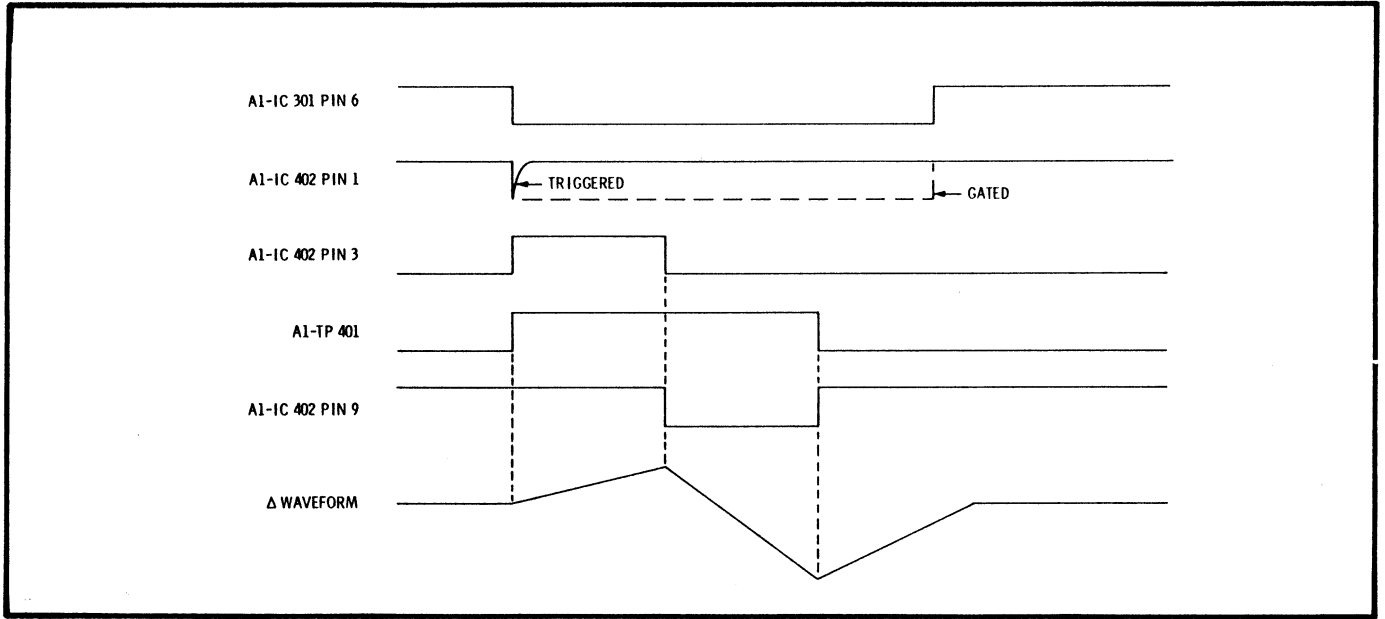

Figure 5-7. Timing Diagram — Triggered & Gated Modes
- a. Triggered and Gated Modes (See figure 5-7)